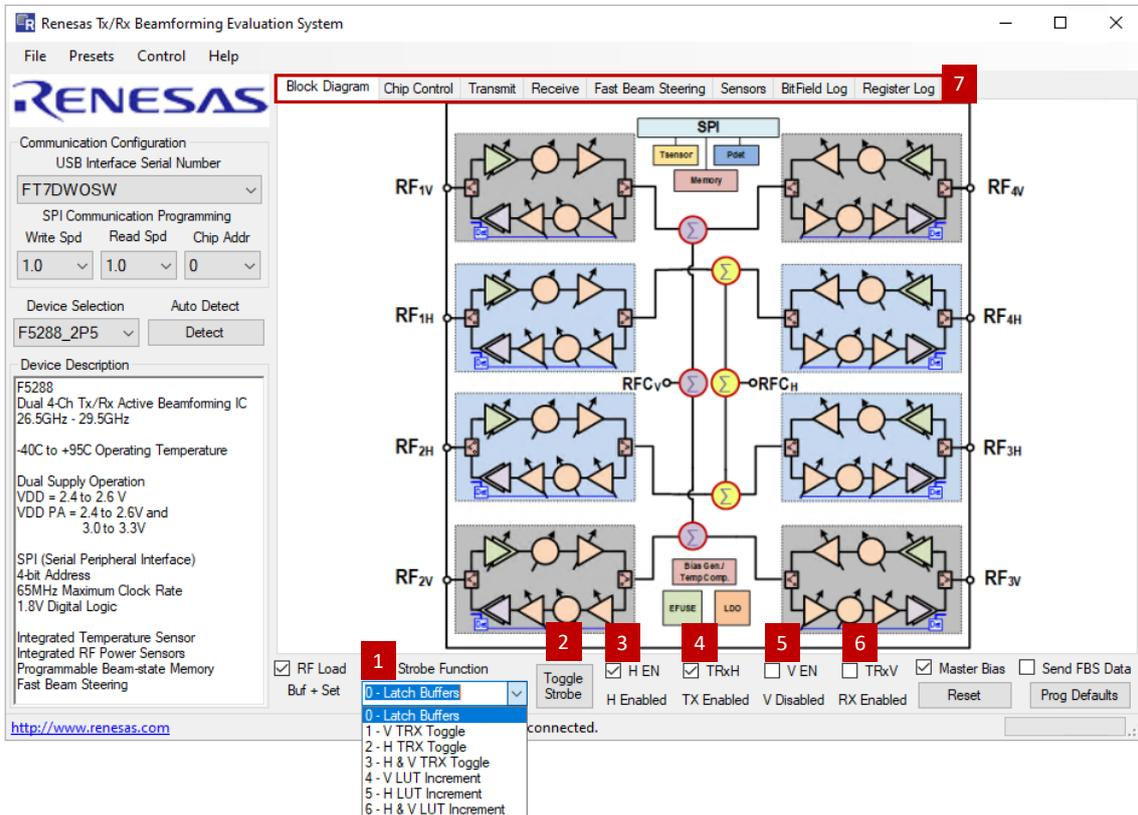

Figure 8. Main Control Buttons
Other control buttons that are also accessible on the main panel include the ability to program/toggle the Strobe pin (see item 1 and 2 in Figure 8), enable/disable H/V channels (see item 3 and 5 in Figure 8), and toggle between RX and TX for H and V channels (see item 4 and 6 in Figure 8). Specific register settings can be revised on different panels accessible using the panel tabs at the top (see item 7 in Figure 8). The block diagram tab only provides an overview of the system.